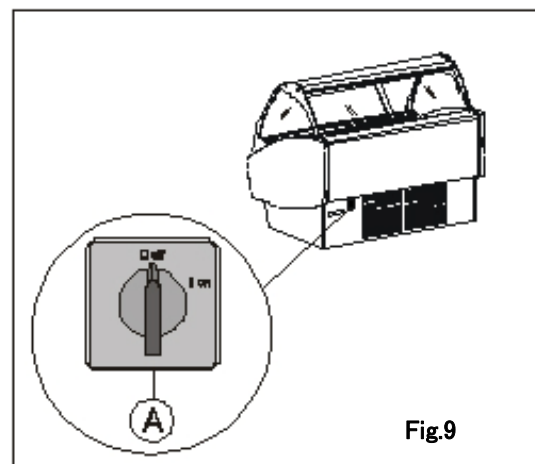

Fig.9
2. Turn on the cabinet On/Off switch (pos.A on fig.9), located on the back protection panel. When the switch is on the display should turn on.